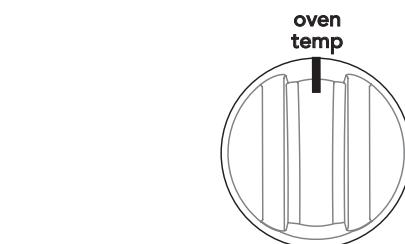

Figure 19: Oven temp knob
4. Turn the **oven temp** knob to the desired temperature position (Figure 19).